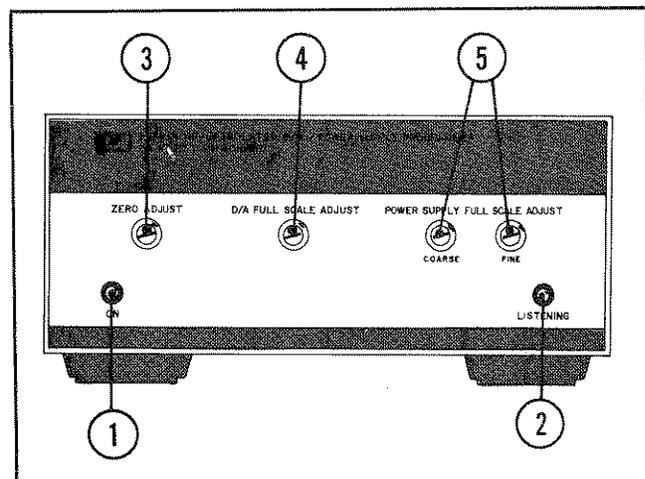

Figure 3-1. 59501A Front Panel
3-7 The 59501A front panel contains a power on indicator, a status indicator and four controls (screwdriver adjustments) as shown in Figure 3-1.
3-8 The power on (ON) indicator ① (Figure 3-1) lights and the 59501A's internal supply voltages (+15V,  $\pm 15V$ ,  $V_{dd}$ ) are present when the line cord is plugged-in.